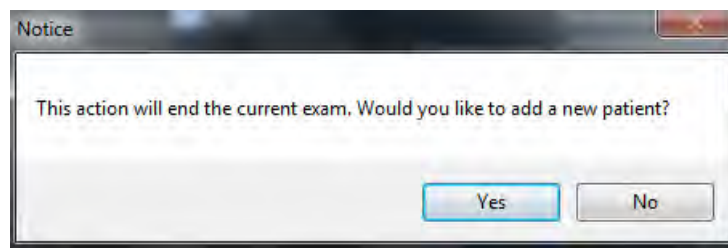

Figure 76: End Exam and Create New Patient Information prompt.
- Create new patient data: Click on the **ID** button on the control panel to open the **New Patient Info** screen. Use the trackball to move the cursor to **New Pat**, click on the **Set** button and a dialogue box appears on the screen (see Figure 76).